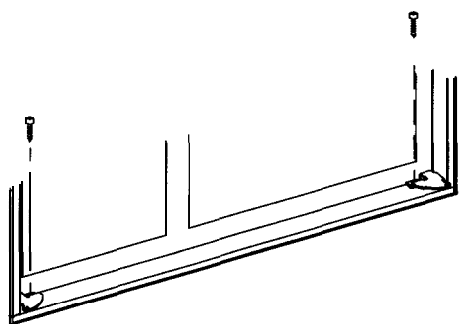

FIG. 6
- Secure the refrigerator and the lower front strip with two screws: One screw through each hinge. See FIG. 6.